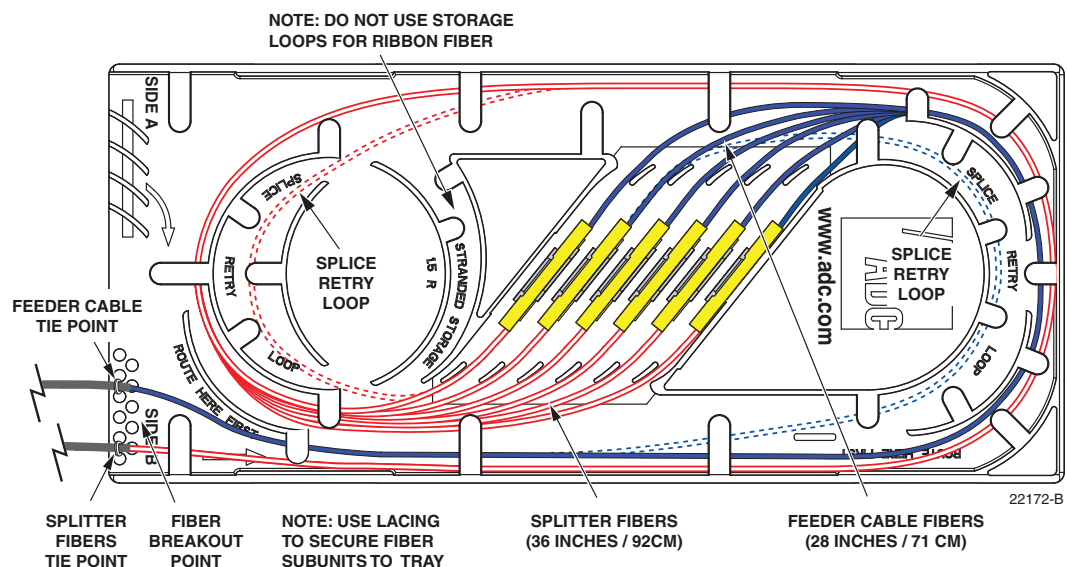

Figure 23. Ribbon Fiber Splice Tray - Feeder Cable Splicing
10. Splice the feeder cable fibers to the appropriate splitter fibers as specified by local policies and procedures. Adjust and route the fibers within the splice tray as shown in Figure 23. Refer to Table 3 for the splitter fiber designations.